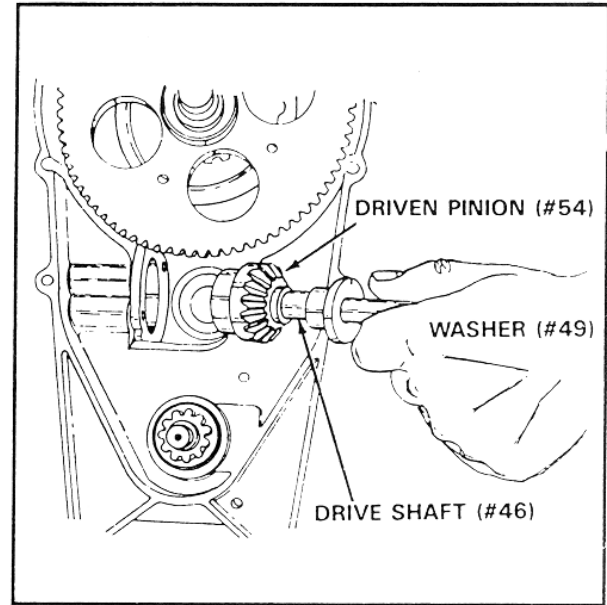

FIGURE 17
- 8.02 Take drive shaft (#46) and press splined end into bearing until driven pinion (#54) is seated against bearing. See figure 17.